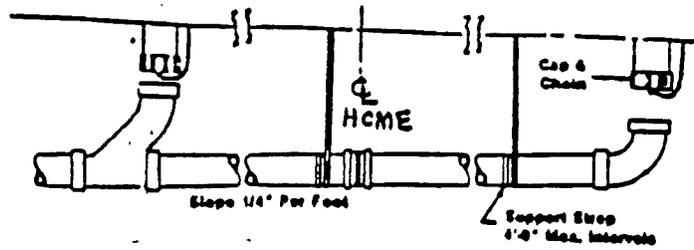

Figure 8.7
- 8.3.3 Crossovers.** Connect multisection home drainage line crossovers as shown in Figure 8.7.